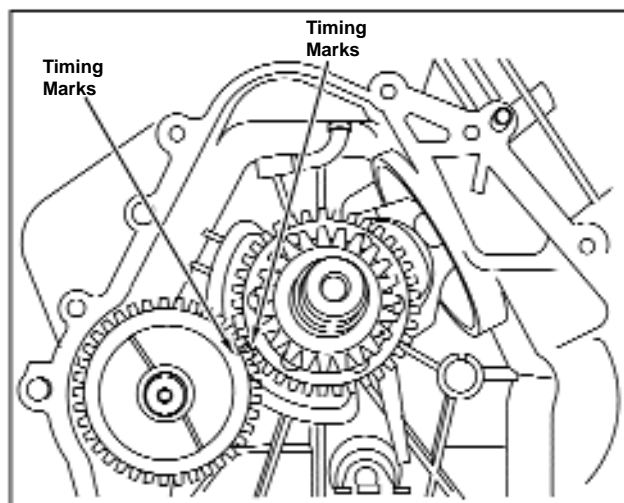

Figure 146 - Aligning Timing Marks
2. Turn crankshaft to align timing marks on crankshaft gear and counterweight shaft gear, Figure 146. Remove shaft.